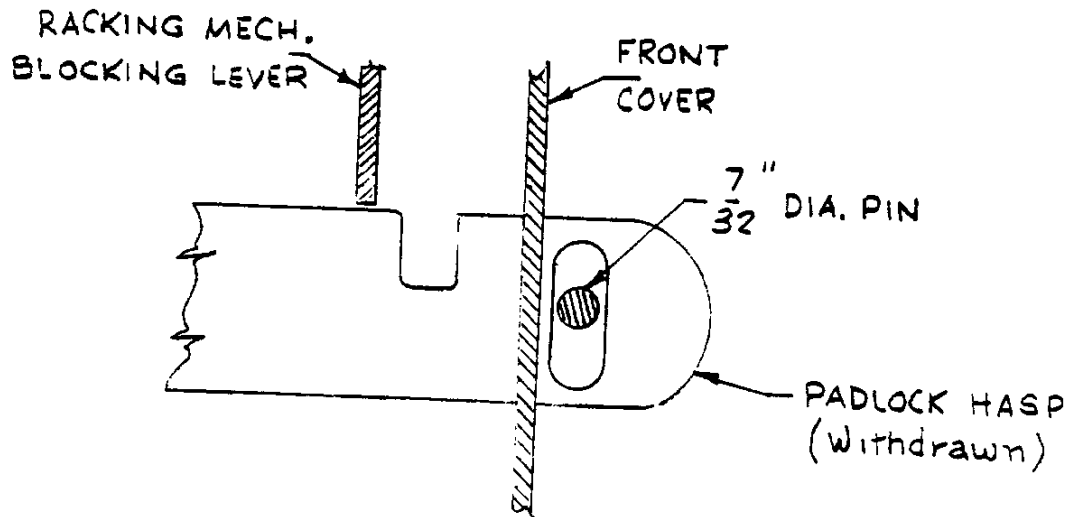

FIGURE G-2
14. The padlock hasp (furnished only when specified) shall be checked with a 7/32" diameter pin inserted in the padlock slot, against the front of the front cover (See Figure G-2). With the pin installed, it shall be impossible to release the racking unlocking lever. With the breaker in the connected position, the hasp cannot be pulled out to install the pin. The breaker can be closed or opened with the pin installed.